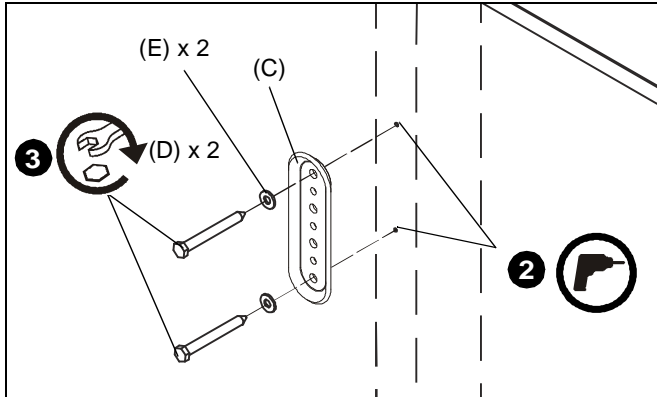
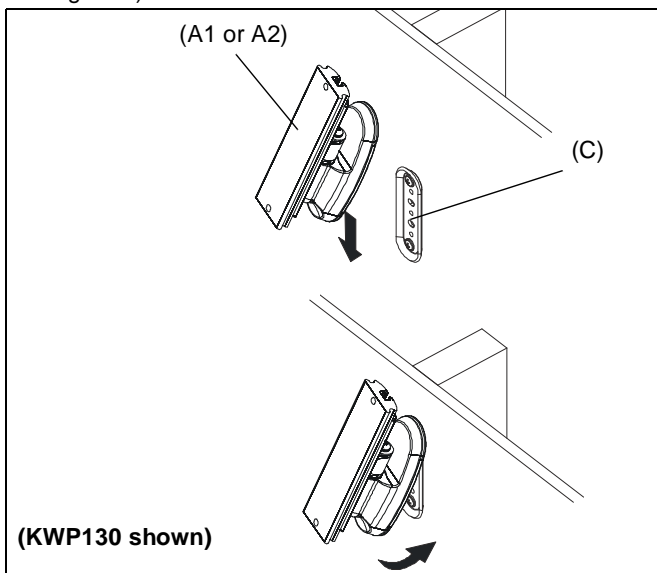

Figure 1
Figure 2
1. Determine location for mount keeping in mind display size, extension, height adjustment (if applicable), and pitch/roll requirements. Wall bracket (C) **MUST** be installed into wood stud.
2. Using wall bracket (C) as a template, drill two 1/8" diameter pilot holes through top and bottom holes of bracket and into wall structure. (See Figure 1)
3. Using 7/16" wrench, install two 1/4" x 2-1/2" hex head lag screws (D) through two 1/4" washers (E), wall bracket (C), and drywall into wood stud. Ensure bracket (C) is vertical, then tighten screws (D). (See Figure 1)
**IMPORTANT !** : Overtightening screws (D) may cause bracket (C) to compress into soft wall surface, resulting in difficult mount installation or improper engaging of set screw in Step 5.
4. Insert top of mount (A1 or A2) over lip on top of bracket (C). Swing mount (A1 or A2) down flush against wall. (See Figure 2)